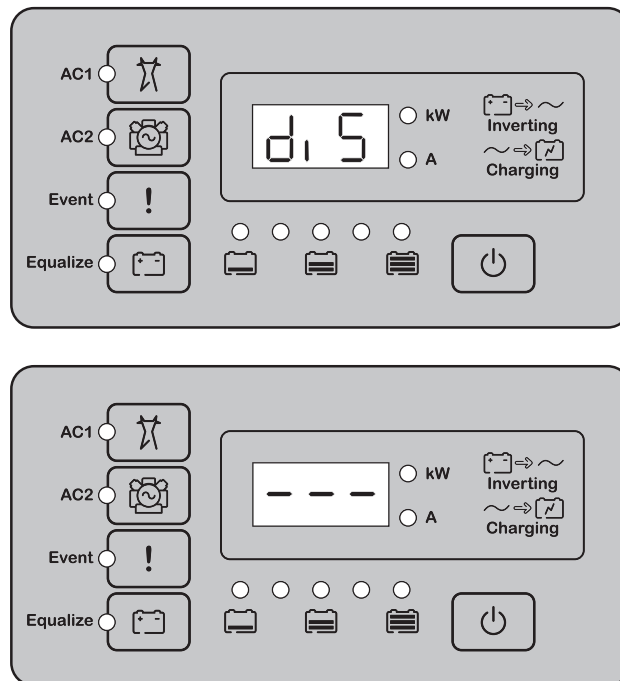

Figure 3-18 Transition to disabled mode
- ◆ On the inverter information panel, simultaneously press the STARTUP/ SHUTDOWN button and the Equalize button. The Conext XW+ is now disabled, and *d,5* (disabled) is briefly displayed on the inverter information panel, followed by "---" (as shown in Figure 3-18).